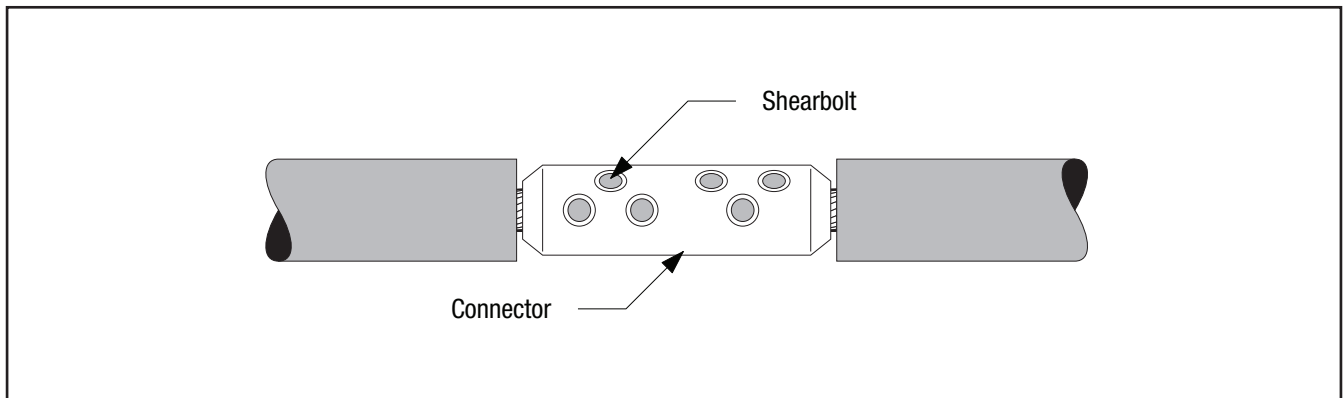

Figure 5
- 3.2** Install 3M Shearbolt Connector QCI 2-250 according to the instructions included with the connector (Figure 5).